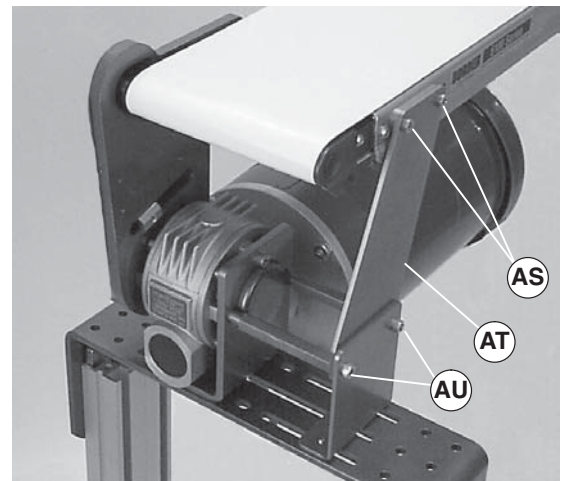

Figure 24
For conveyor with a Heavy Load Bottom or Top Mount Package, bracket (Figure 24, item AT) must be removed.
6. For a conveyor with a Heavy Load Bottom or Top Mounting package, re-install bracket (Figure 24, item AT).